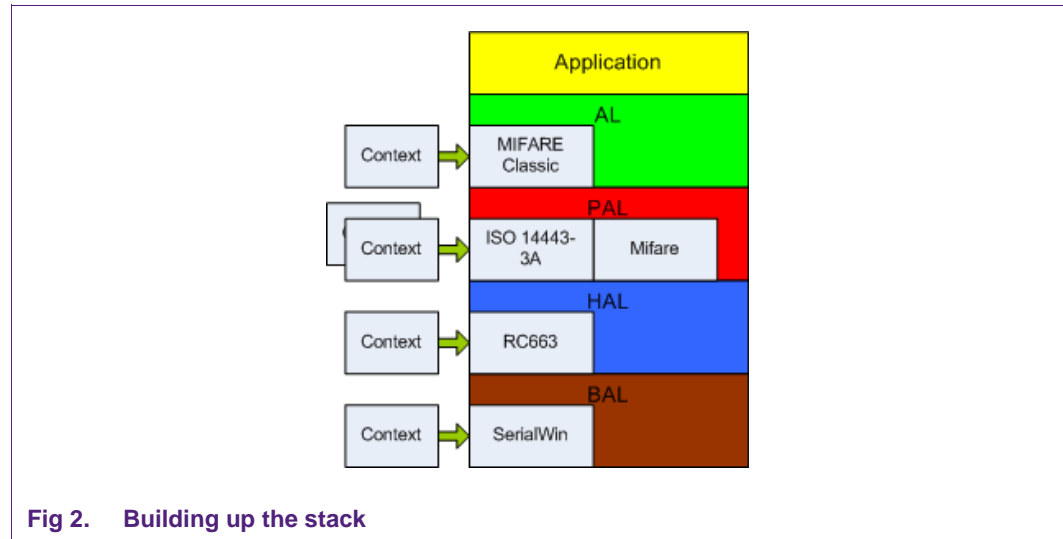

Fig 2. Building up the stack
In order to use the software library a stack of components has to be build up from bottom (BAL) to top (AL) layer. Fig 2 shows the various elements to build up a full software stack on the PC site for contactless card communication.